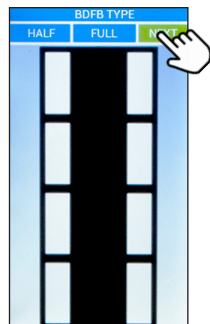

Figure 56. BDFB Type
- Step 5.** Select Half for BDFB Type and then select NEXT (see Figure 56).